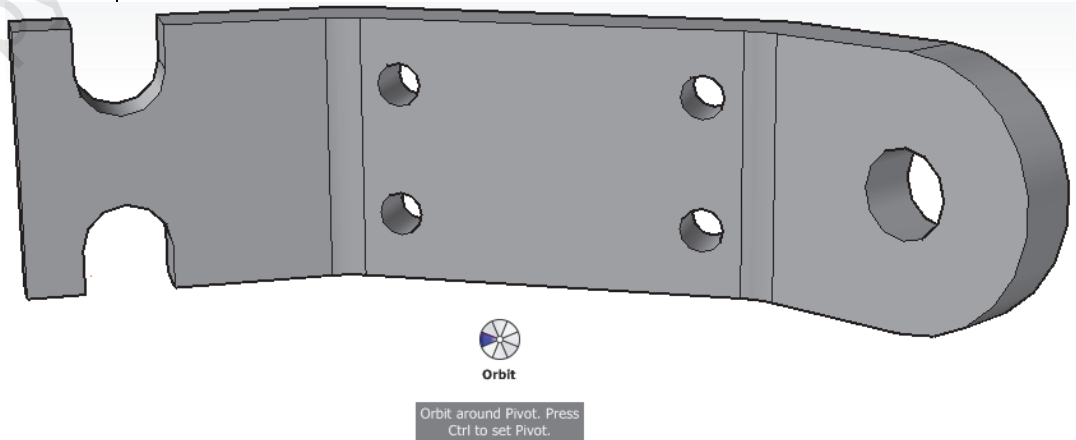

Figure 1–26
2. Zoom, orbit, and pan using the SteeringWheel tools, as shown with the mechanical part in Figure 1–26.